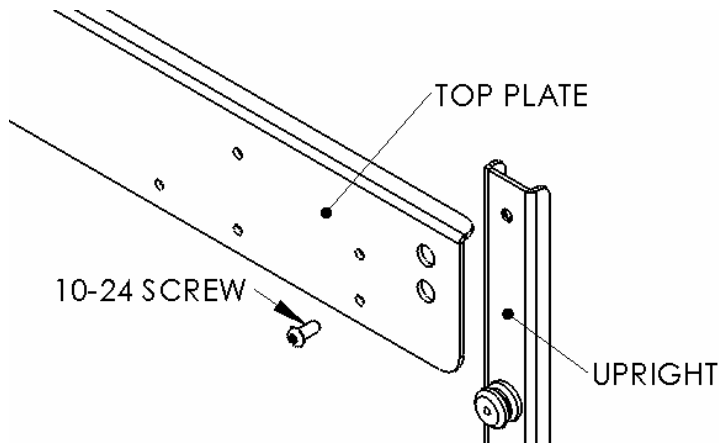
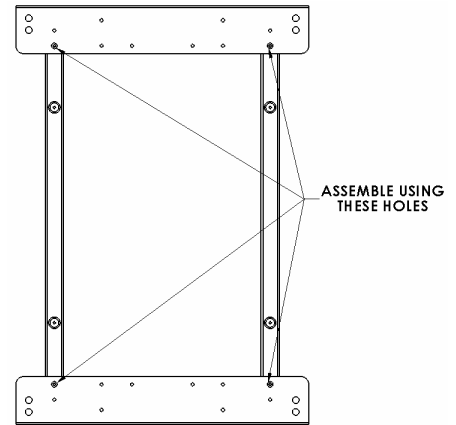

Figure 4
Figure 5
- Using four 10-24 button head cap screws, attach uprights to top/bottom brackets (see Figure 4 & Figure 5).